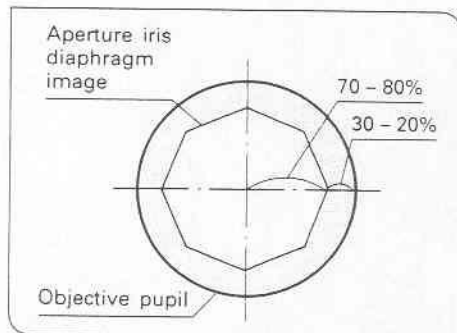

Fig. 54
(Figs. 54, 55)
- Since the contrast of microscopic specimens is ordinarily low, setting the condenser aperture iris diaphragm to 70~80% of the N.A. of the objective in use is usually recommended. When necessary, adjust this ratio by removing the eyepiece and peering into the eyepiece sleeve to see the image shown in Fig. 54.